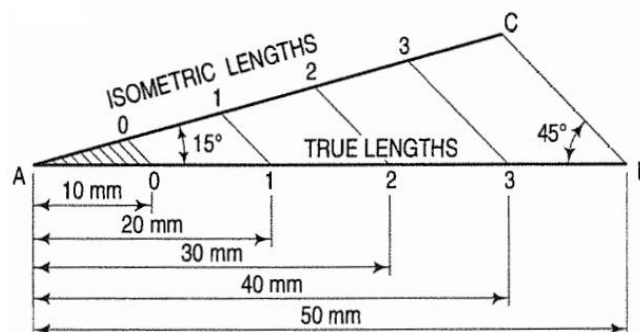

Fig. 2.48: Isometric scale
- In isometric drawing, the isometric scale is used to scale the objects correctly because the isometric projection causes foreshortening. The scale compensates for this foreshortening by reducing the length of the object along the axes to maintain true proportions in the drawing (Fig. 2.48).